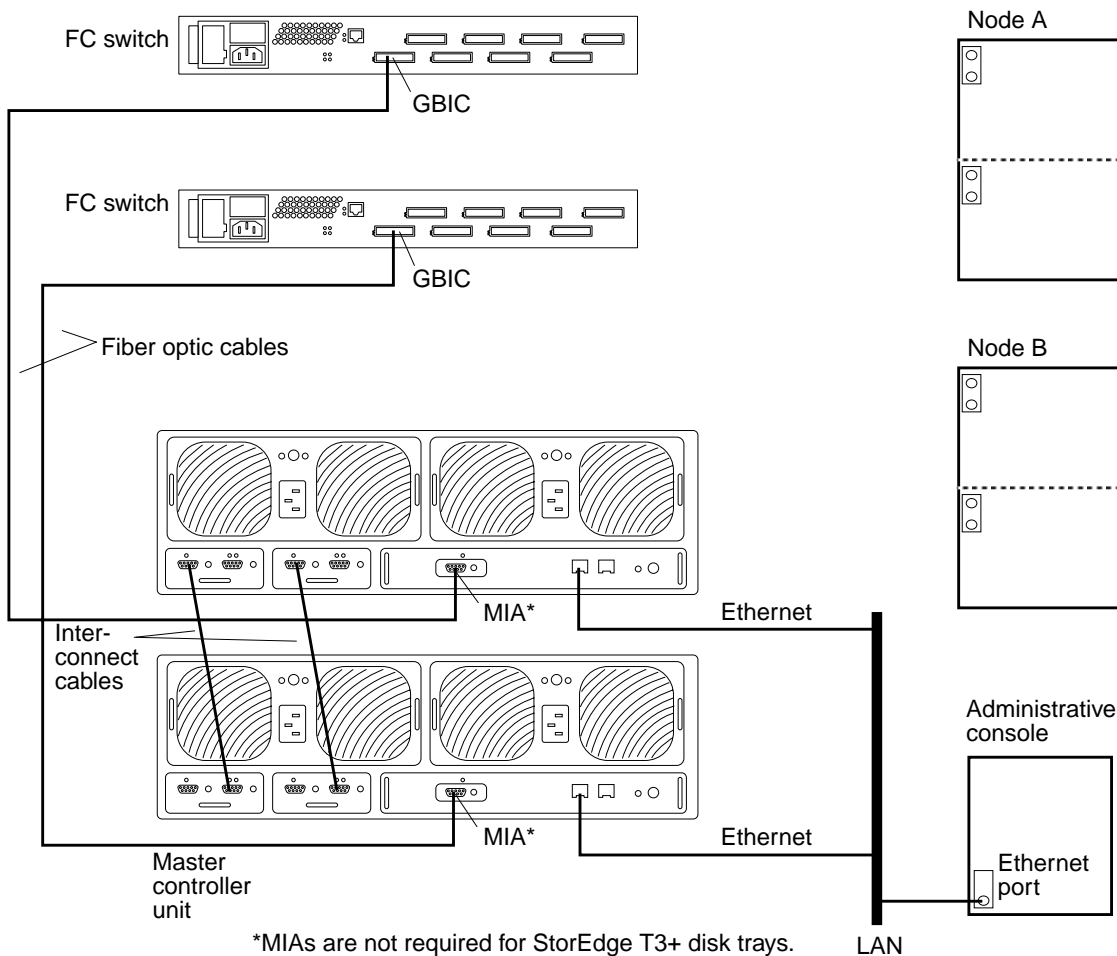

FIGURE B-2 Adding Sun StorEdge T3/T3+ Disk Trays, Partner-Group Configuration
Note – Assign an IP address to the *master* controller unit only. The master controller unit is the disk tray that has the interconnect cables attached to the right-hand connectors of its interconnect cards (see FIGURE B-2).
2. **Install the Ethernet cable between the disk trays and the local area network (LAN) (see FIGURE B-2).**
3. **If not already installed, install interconnect cables between the two disk trays of each partner group (see FIGURE B-2).**
Install the media interface adapter (MIA) in the StorEdge T3 disk trays you are adding, as shown in FIGURE B-2.
13. If necessary, install GBICs in the FC switches, as shown in FIGURE B-2.
14. Install a fiber optic cable between the FC switch and the new disk tray as shown in FIGURE B-2.